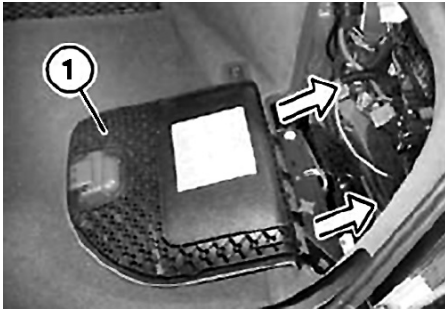

Fig. 3 Righthand luggage compartment trim flap removal
4. Remove righthand luggage compartment trim flap in direction of arrow as illustrated in **Fig. 3.**